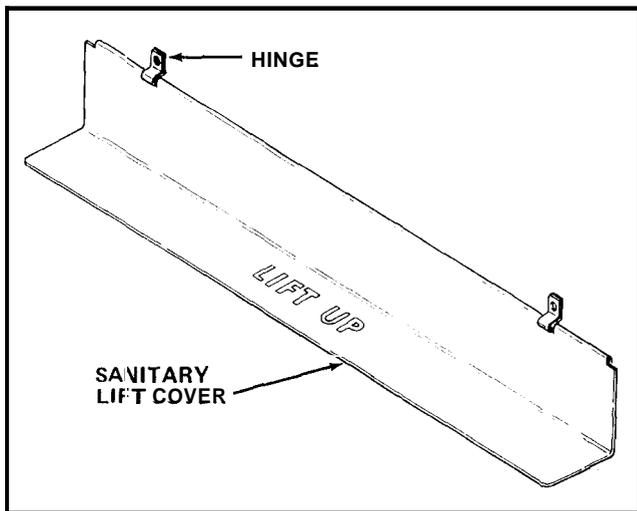

FIGURE 1
1. Place the two Hangers, part number 112-2116, on the Sanitary Lift Cover, part number 112-2115. The Hanger is to be inserted from the front side of the Cover. See Figure 1.